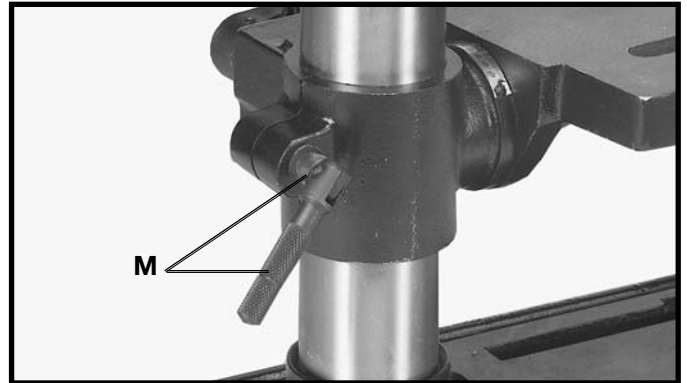

Fig. 14
10. Thread clamp handle (M) Fig. 14, into hole in rear of table bracket, as shown.